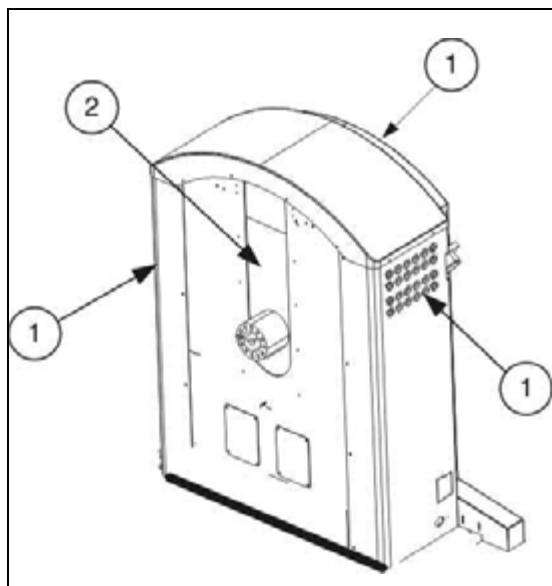
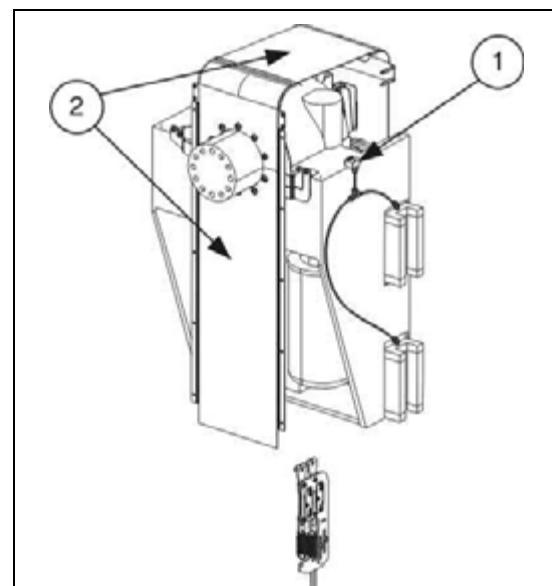

Fig. 1: Lifting base, complete
Fig. 2: Lifting base drive
- Clean the ventilation grate (1/Fig. 1 / p. 19).
- Clean all accessible areas of the cover, especially the plastic band (2/Fig. 1 / p. 19)(2/Fig. 2 / p. 19).
- Regrease the linear guide at the central grease fitting (1/Fig. 2 / p. 19) (manual grease press filled with Mobiltemp SHC100). For this, perform a lift with the grease gun. Then make absolutely sure to move the drive all the way up and down. Repeat this procedure 3 times.